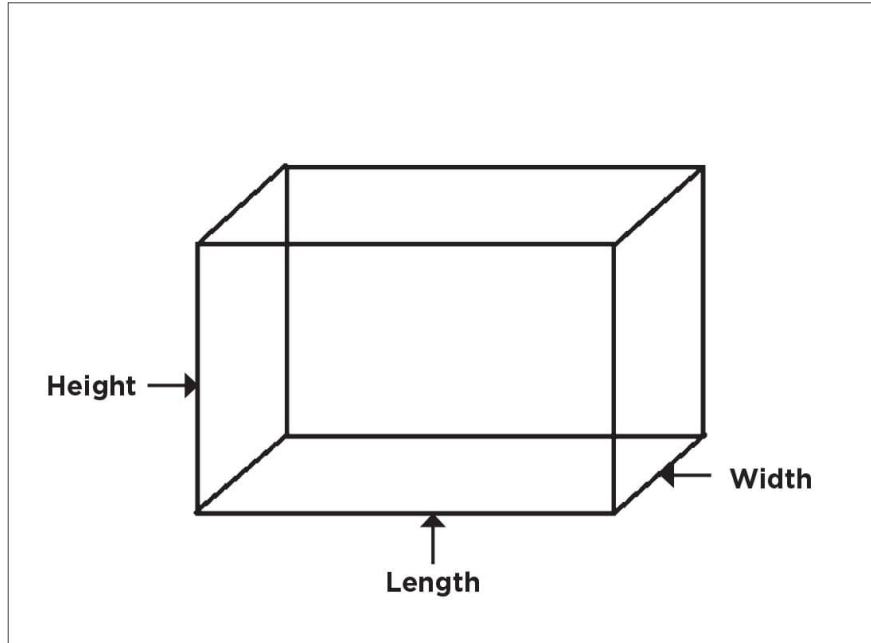

FIG. 1: The dimensions of straight-edged shapes are length, width, and height.
A basic 3D shape with straight edges (such as a cube) has a size that is measured in length, width, and height. For shapes with curved edges (such as cylinders), the size of the curved part is determined by the “radius”. We must remember these names as we will use them to discuss our objects and designs. Fig. 1 shows the measurement terms for the straight-edge shapes.
1. Start by drawing a sketch of a square prism (see fig. 1 for guidance).